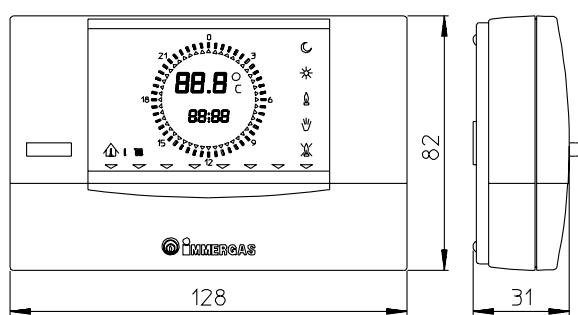

Fig. 1-6 Obr. 1-6
- There are two types of Remote Friend Control (RFC) (Fig. 1-6) and Digital Remote Control (DRC) (Fig. 1-5) both with room chronothermostat functioning. In addition to the functions described in the previous point, the Remote Friend Control enables the user to control all the important information regarding operation of the appliance and the heating system with the opportunity of easily intervening on the previously set parameters without having to go to the place where the appliance is installed. The Remote Friend Control panel is provided with self-diagnosis to display any boiler functioning anomalies. The climate chronothermostat incorporated in the remote panel enables the system delivery temperature to be adjusted to the actual needs of the room being heated, in order to obtain the desired room temperature with extreme precision and therefore with evident saving in running costs. The chronothermostat is fed directly by the boiler by means of the same 2 wires used for the transmission of data between boiler and chronothermostat.